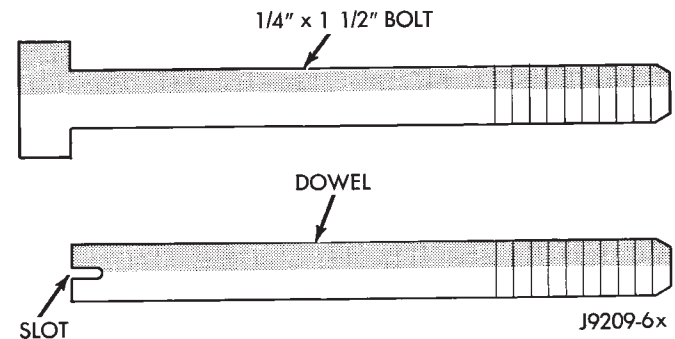

Fig. 57 Fabrication of Alignment Dowels
(1) Clean the block and pan gasket surfaces.
(2) Fabricate 4 alignment dowels from 1/4 x 1 1/2 inch bolts. Cut the head off the bolts and cut a slot into the top of the dowel. This will allow easier installation and removal with a screwdriver (Fig. 57).